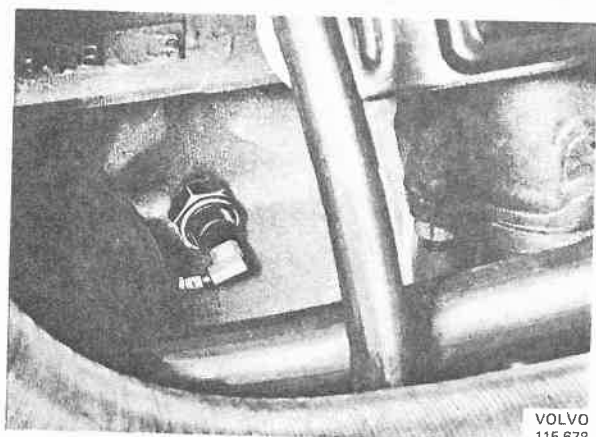

Fig. 38-17. Oil pressure contact
2. Disconnect the cable from the oil pressure contact, see Fig. 38-17.